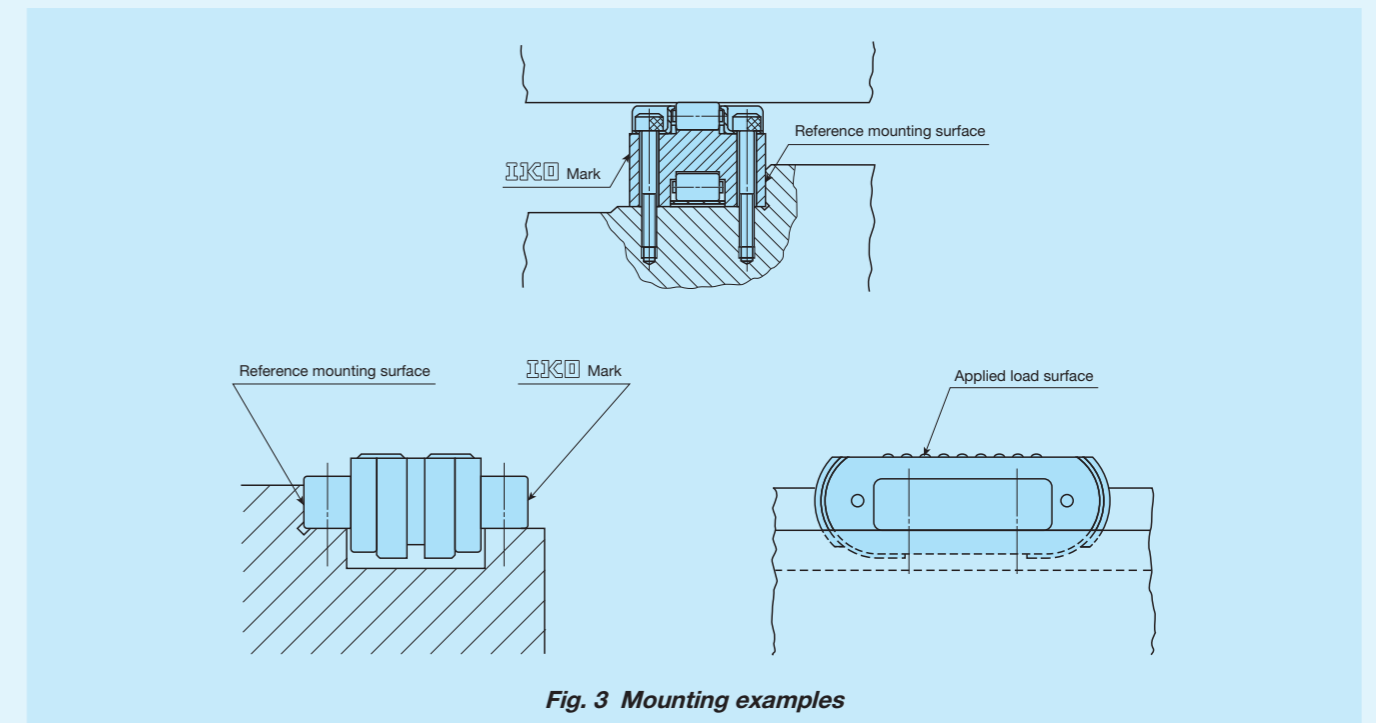

Fig. 3 Mounting examples
Note (1) For hardness factor, refer to Fig. 3 in page III-5.
To mount RW, RWB, SR, and GSN in the linear motion direction, mount them by referring the opposite side of the **IKO** mark on the way end as reference surface. (See Fig. 3.) In addition, the surface under load is the upside of the **IKO** mark on the way end seen as the normal position.